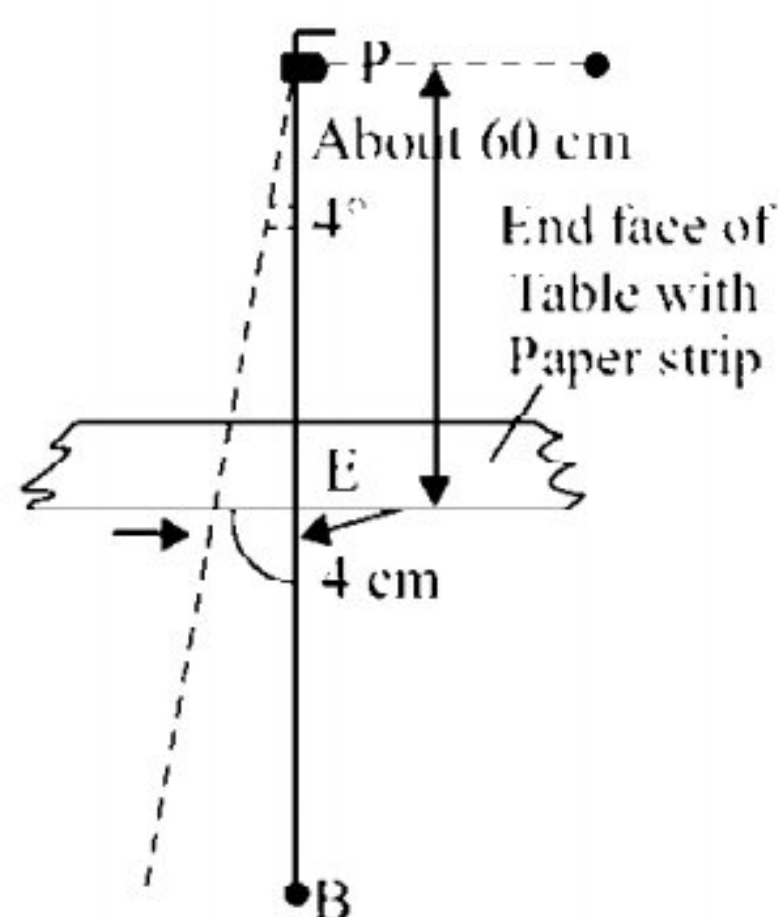

Fig 3.3
- (v) The bob to one side and release so that it oscillates with an amplitude of less than 4° (Fig 3.3). If height of P above table is about 60 cm, then maximum displacement of thread from central mark is not more than about 4 cm.